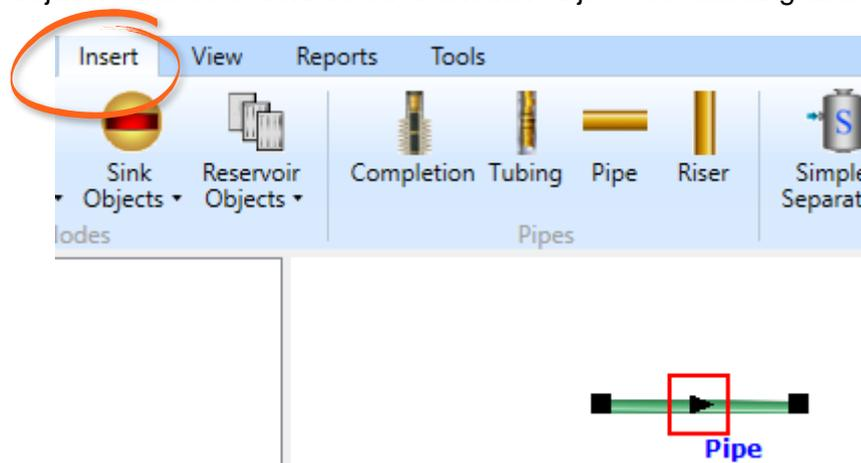

Figure 6: Adding a pipe object to the model canvas.
- Now we can start to build the model. Select the pipe object from the **Insert tab** as shown in Figure 6. Click on the model canvas to place the pipe object. Extend the pipe by drag and dropping one of the black squares at the end of the pipe object. If you want to move the pipe, drag-and-drop the black arrow in the middle of the pipe. The red circle indicates that the object is either not connected to another object or is missing data.